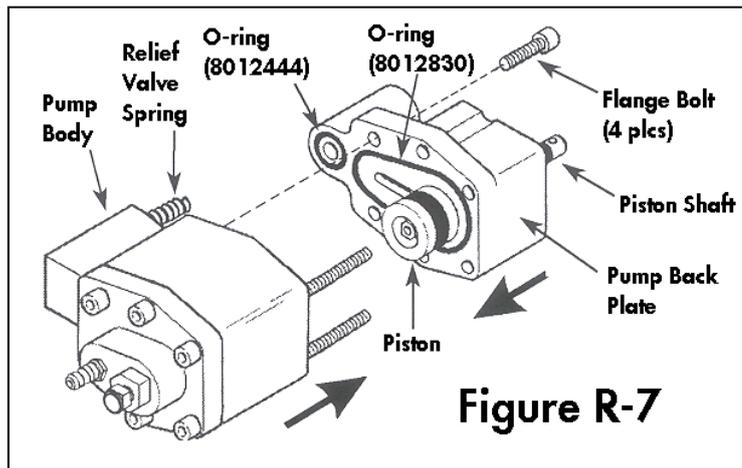

Figure R-7
- Lubricate the inside of the cylinder in the pump body with silicone grease. Insert the piston assembly through its hole in the pump back plate and slide it as far as it will go toward the pump back plate, as shown in **Figure R-7**. Install the two o-rings (8012830) and (8012444) in their grooves in the pump back plate. Make sure the relief valve spring is installed in the pump